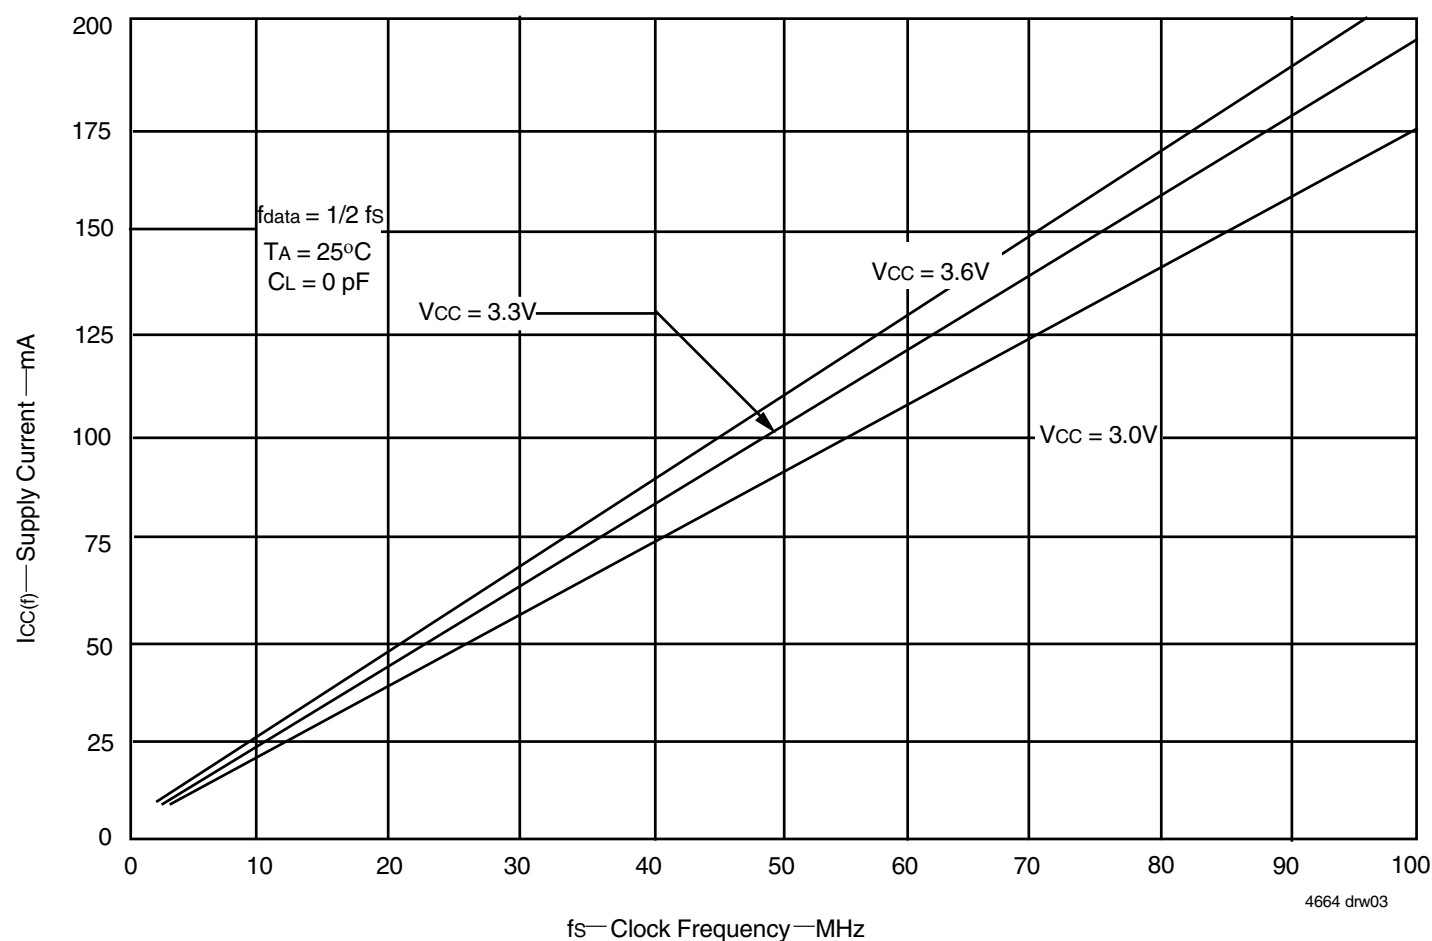

Figure 1. Typical Characteristics: Supply Current (I_{CC}) vs. Clock Frequency (f_s)
- For additional I_{CC} information, see Figure 1, *Typical Characteristics: Supply Current (I_{CC}) vs. Clock Frequency (fs)*.
The $I_{CC(f)}$ current for the graph in Figure 1 was taken while simultaneously reading and writing a FIFO on the IDT72V3624/72V3644 with CLKA and CLKB set to f_s . All data inputs and data outputs change state during each clock cycle to consume the highest supply current. Data outputs were disconnected to normalize the graph to a zero capacitance load. Once the capacitance load per data-output channel and the number of these device's inputs driven by TTL HIGH levels are known, the power dissipation can be calculated with the equation below.
With $I_{CC(f)}$ taken from Figure 1, the maximum power dissipation (PT) of these FIFOs may be calculated by: